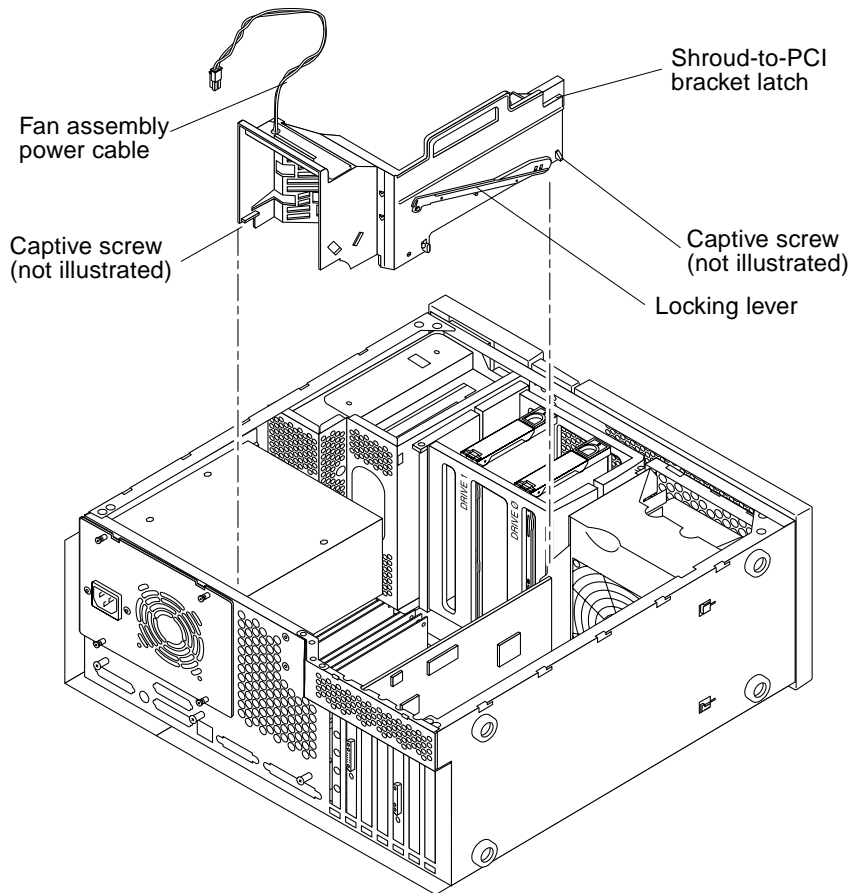

FIGURE 8-13 Removing and Replacing the Two-Piece Shroud Assembly
7. Disconnect the shroud assembly as follows (FIGURE 8-13):
2. **Connect the shroud assembly as follows (FIGURE 8-13):**